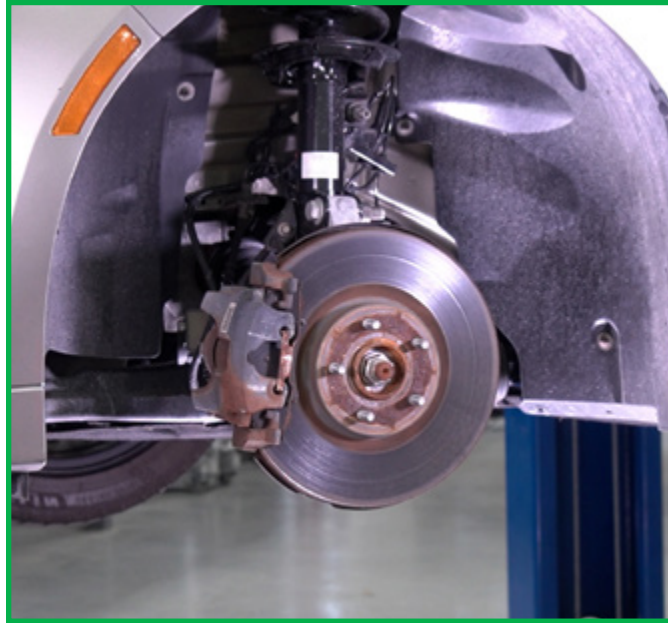

FIGURE 1
1. Raise vehicle and remove front wheels. (Figure 1)